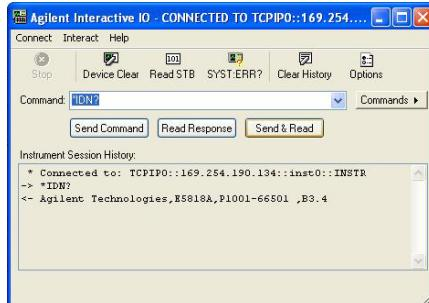

Figure 13 *IDN? Command Example in Interactive IO
- 2 Open the *Commands* menu and select a command. The example in below (Figure 13) shows a **IDN?* command selected.